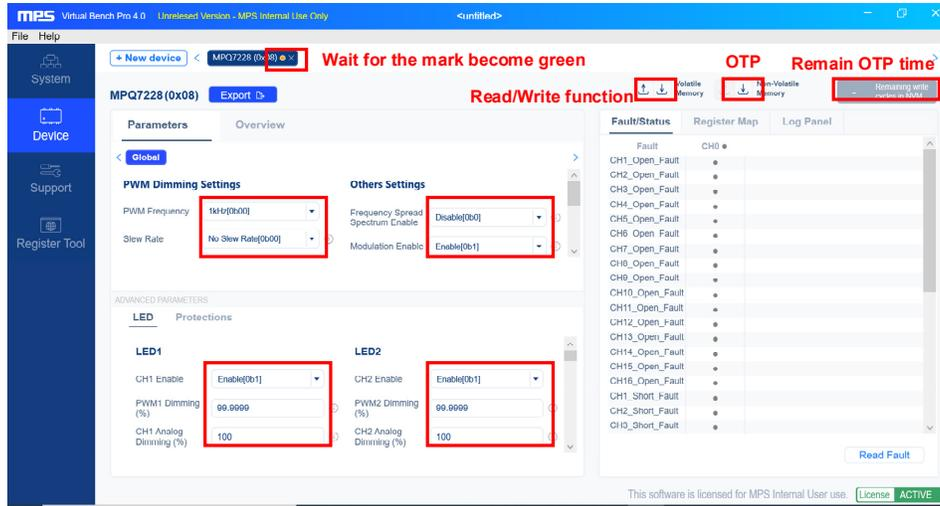

Figure 9: OTP Memory in Virtual Bench
- d. After changing the register value, click the “Non-Volatile Memory” button to start the OTP memory, then reset the MPQ7228 to validate the OTP memory. If the remaining OTP memory time under “Remaining write cycles in NVM” is 0, then this means that the device has used all available OTP write cycles (see Figure 9 on page 9).